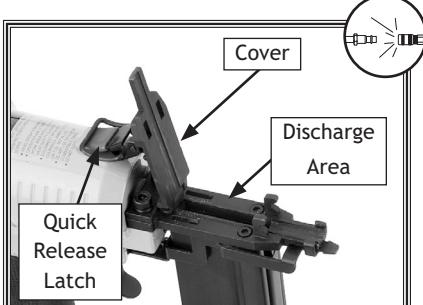

Figure 6. Nose opened to clear a jam.
4. Flip the quick release latch, as shown in **Figure 6**, and open the cover.